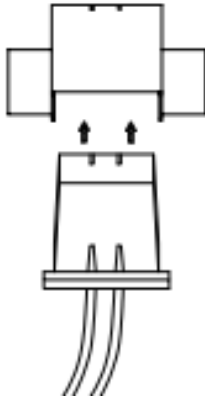

Figure I-2
(3) Route cable (see Figures I-1 and Figure I-2, Figure I-3).
(a) Attach cable assembly to the inside escutcheon printed circuit board (PCB) by lining up notches on top of cable connector to slots on PCB connector (Figure 3K). Press connector in firmly using thumbs until completely seated (proper position indicated by arrows on PCB as in (see **Figures I-1 and Figure I-2, Figure I-3**).
(b) If need automatic relocking function, need to install the door position sensor (supplied in the box), attach the sensor cable to the inside escutcheon printed circuit board (PCB), the cable route through the slot on the rubber gasket. (see **Figures I-1 and Figure I-2**).